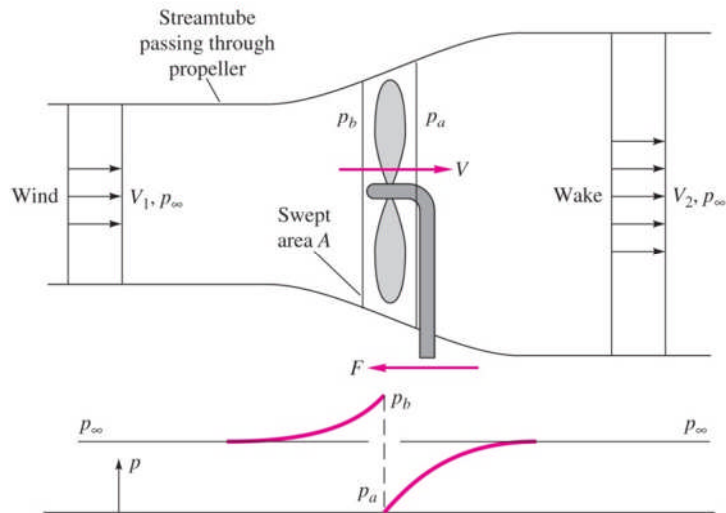

Figure 18: Idealised analysis of flow through a wind turbine
The maximum amount of energy that can be extracted from the wind approaching a propeller wind turbine was first analysed by Betz in 1920. He approximated the propeller as an actuator disk which creates a pressure discontinuity of area A and velocity V as illustrated in Figure 18. A streamtube of wind approaches the propeller at V_1 . Some of its energy goes into driving the propeller and so the wind speed downstream is lower at V_2 . The wind exerts a force on the propeller (F) that is matched by a force at the mast base (shown in figure).